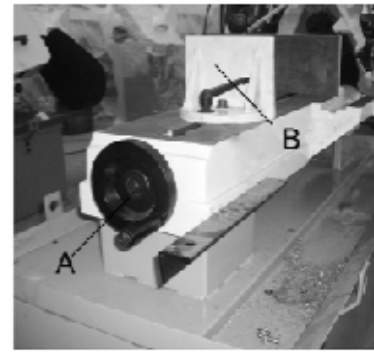

Fig.12
The workpiece is placed between the vise jaws with the amount to be cut-off extending out past the blade. Your machine is equipped with a "quick action" vise jaw which allows you to instantly position the moveable vise jaw (B) Fig. 12. Simply turn hand wheel (A) counterclockwise 1/2 turn and move the